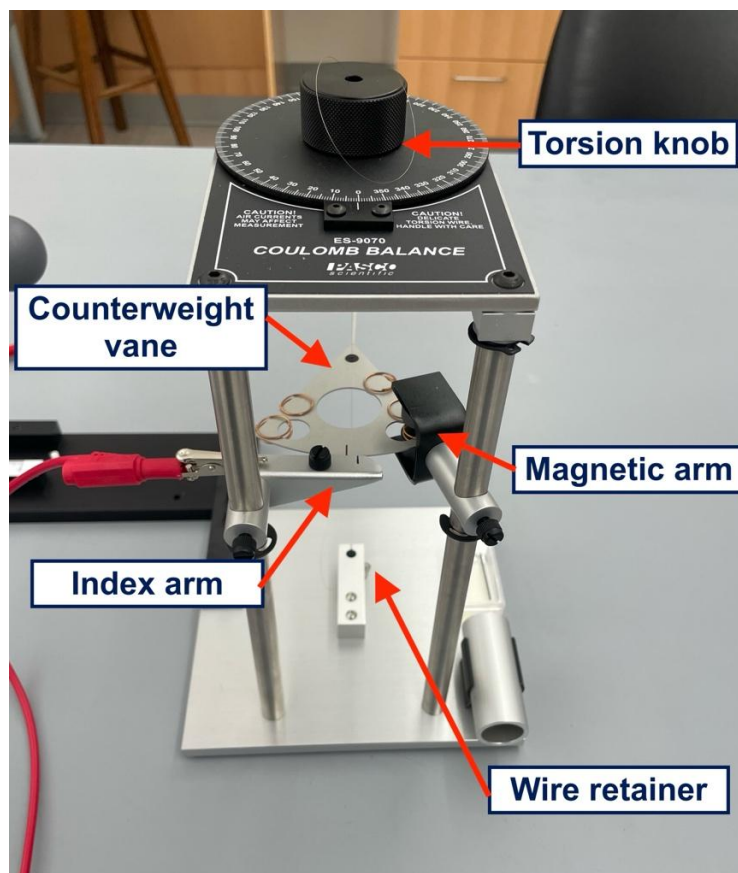

Figure 2: Torsion balance diagram
2. Locate the index line marking on the counterweight vane and the index line marking on the index arm. They should be aligned with each other. Refer to Figures 2 and 3.